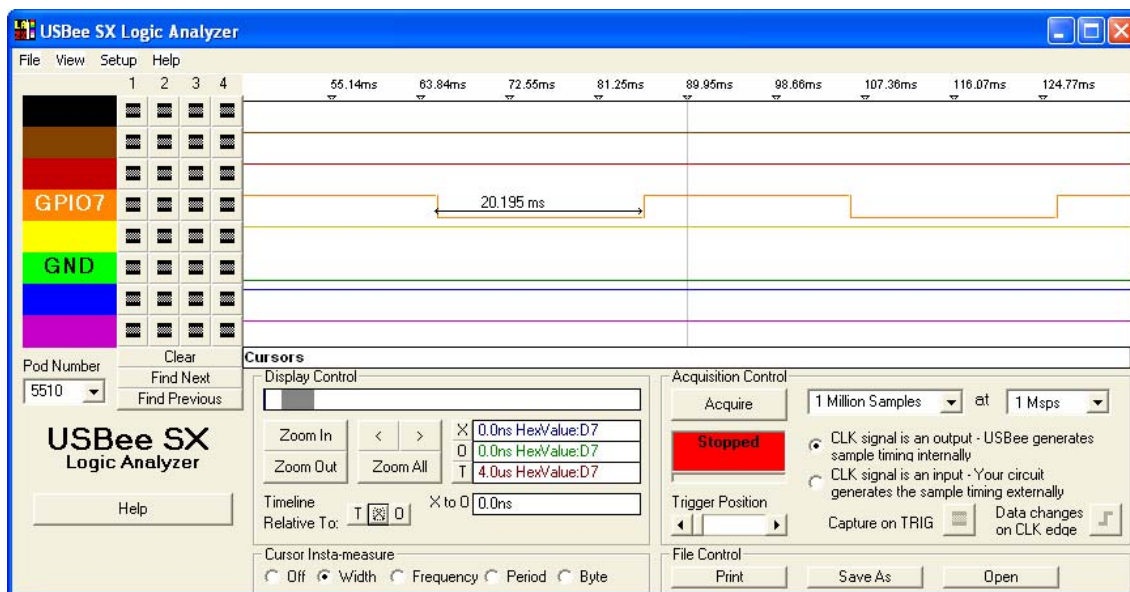

Figure 24.
- Place the board flat on a table. Connect an oscilloscope on GPIO7. A square wave of 24.4 Hz signal should be observed. A digital analyzer screen capture is shown in Figure 24.